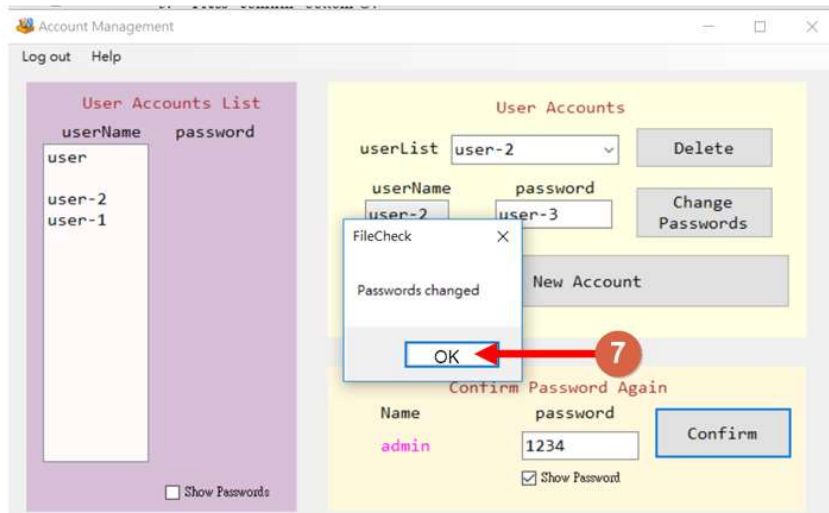

Figure 82
7. A pop up window will be displayed, and then click OK ⑦ as shown in Figure 82.